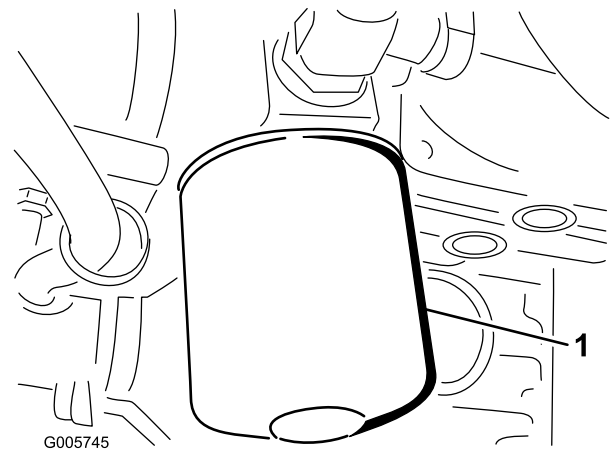

Figure 76
1. Clean area where hydraulic fluid filter mounts. Remove filter from base (Figure 76) and clean filter mounting surface.